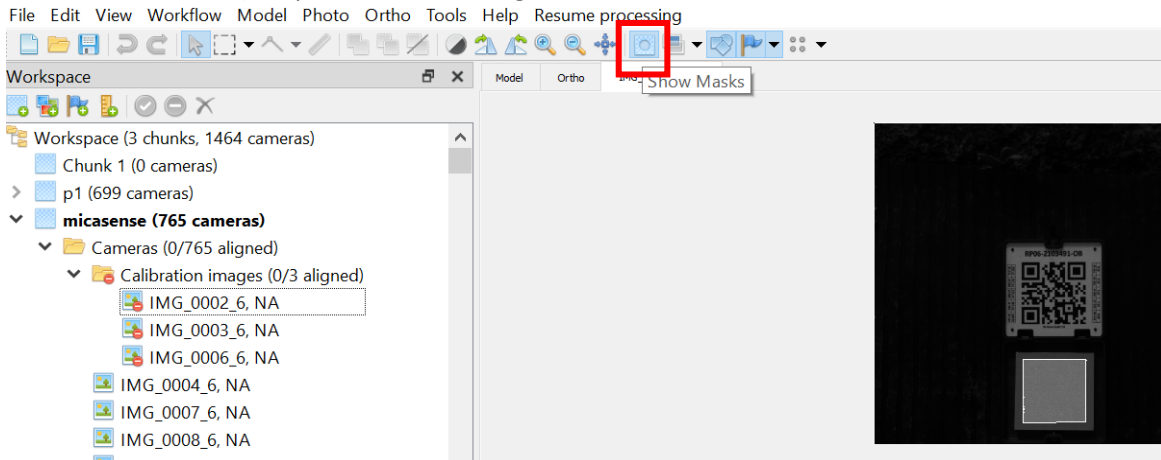

Figure 10: Use the 'Show Masks' icon to inspect the default mask set for the calibration images.
- Click on '**Show Masks**' in the photo menu (Figure 10) and inspect the mask set by default. Only the panel must be unmasked.